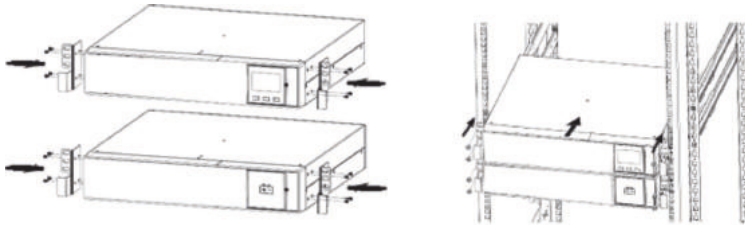

Fig.8: Mounting in a 19" cabinet with battery modules
- Proceed as in Fig. 8 to install the device and its battery module in a 19" cabinet.